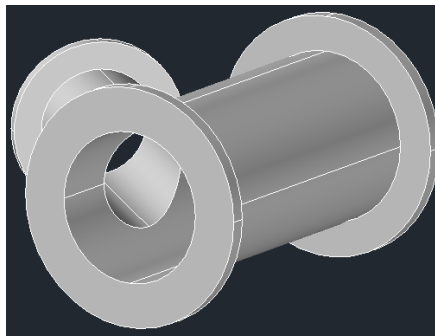

Figure 7.9 – Final 3D representation of custom 12x8 Reducing Wye fitting
- When prompted to subtract certain objects at the command line, we'll select the inner diameter pipes only (may need to use the 3D orbit tool below the ViewCube to select the inner diameter pipe for the branch) and press *Enter*, with the final result looking similar to that displayed in *Figure 7.9*.